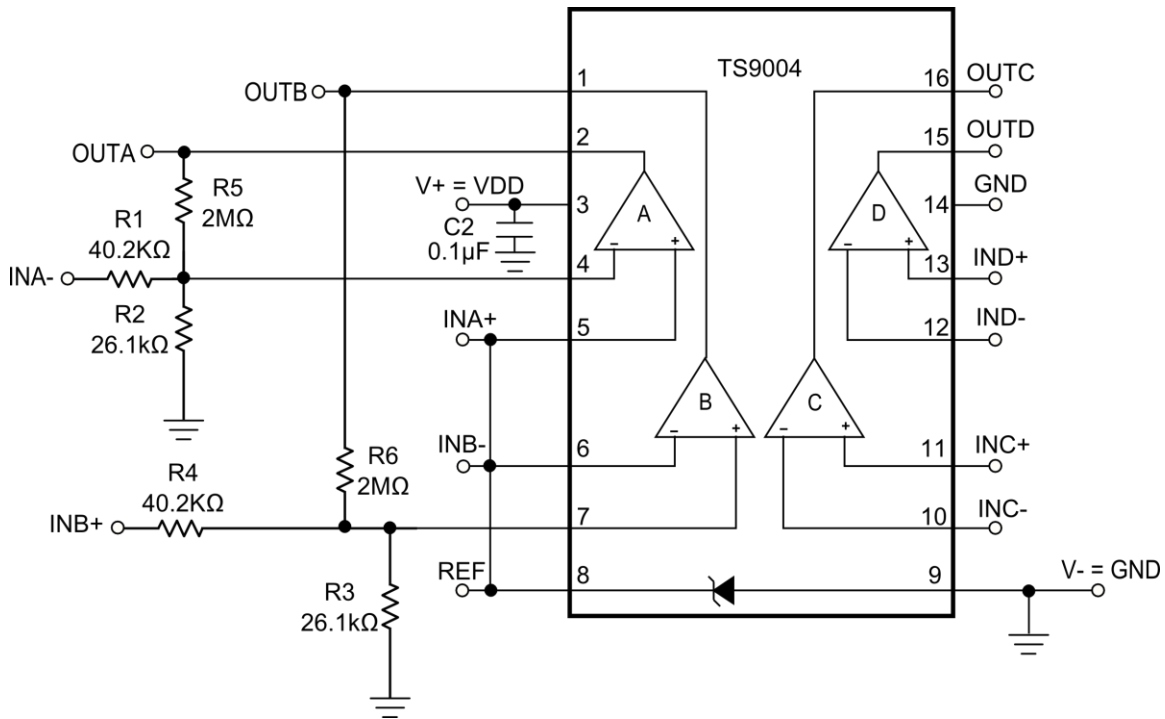

Figure 3. TS9004 Demo Board Circuit
The demo board provides a configuration where only three resistors are required to set the hysteresis band,  $V_{HB}$ , as shown in Figure 3. Adding comparator hysteresis creates two trip points:  $V_{THR}$  (for the rising input voltage) and  $V_{THF}$  (for the falling input voltage). The hysteresis band ( $V_{HB}$ ) is defined as the voltage difference between the two trip points.
- 12) Evaluation of comparator C and D can be performed on the TS9004 demo board. Access to the input and output of comparator C and D is available as shown in Figure 3.